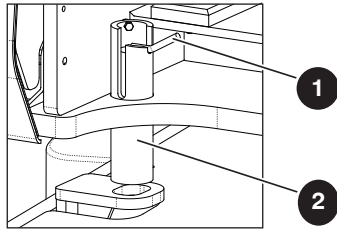

Figure 31 Turret Transportation Lock
1. Ensure that turret is positioned so that turret transportation lock tube (item 2 – Figure 31) is aligned into one of two turret locking points on the chassis.
2. Lift turret lock retaining pin (item 1 – Figure 31) and rotate 90 degrees. Lower turret lock retaining pin into locked position.